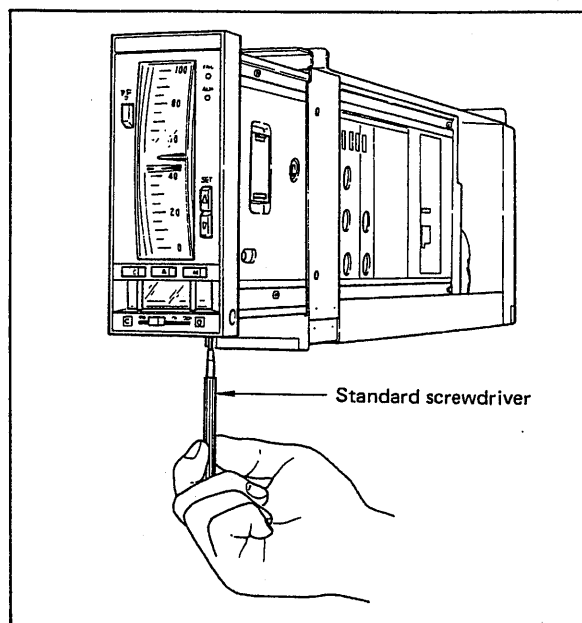

Figure 6-2-4. Adjusting Zero Point of Output Indicator.
- (3) If the pointer is not within this tolerance range, turn the zero adjustment screw as shown in Figure 6-2-4 until the pointer is aligned with the center scale mark.
- (4) Change the input signal to 1.0 V, 2.0 V, 4.0 V and 5.0 V DC in turn, and make sure that the pointer aligns respectively with main scale marks on scale. The tolerance is $\pm 2.5\%$ of the span (1/2 of a scale division).
- (5) If the indication is not within this range at any position, input 3.0 V DC, and adjust the indicated value within the tolerance range.
- (6) Repeat step (4). Repeat steps (4) and (5) as necessary until all points fall within the tolerance range.